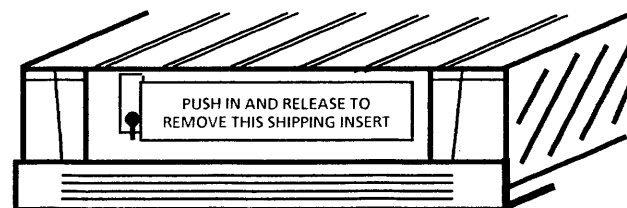

Figure 22B. Removing the Cartridge Tape Drive Shipping Insert
4. Flip the front cover of the optional drive down, then slide it back. **Cartridge Tape Drive** (Figure 22B): Push in the plastic shipping insert to release and remove it from the tape drive. **Floppy Disk Drive** (Figure 22A): Move the lever to the horizontal position. Remove the cardboard shipping insert from inside the floppy disk drive.